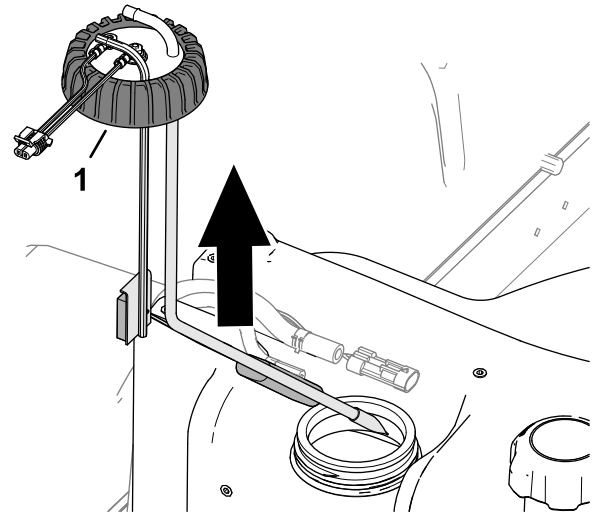

**Figure 89**
4. Move the clamps that secure the hoses to the fittings of the fuel sender inboard, and remove the hoses from the fittings (Figure 89).